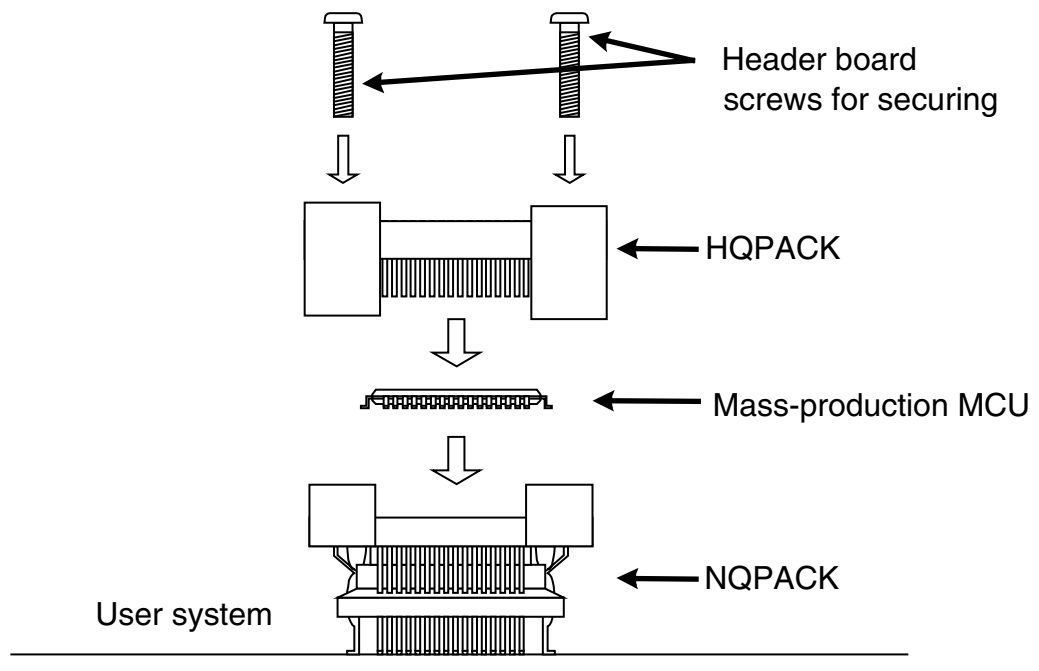

Figure 5 Mounting a mass-production MCU
2. Confirm that the mass production MCU is correctly mounted on the NQPACK. Next, insert the HQPACK into a NQPACK. (See Figure 5.)